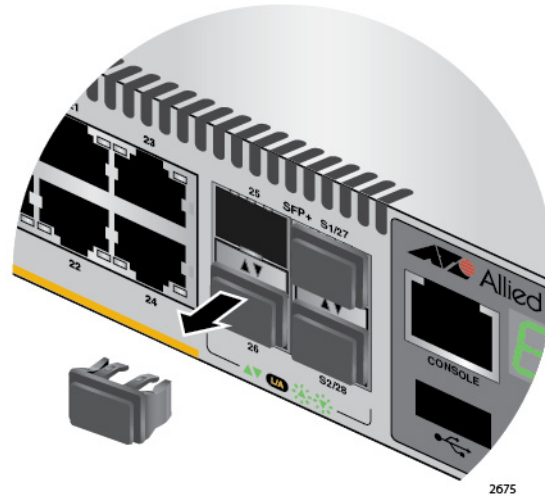

Figure 27. Removing the Dust Plug from an SFP+ Slot
1. Remove the dust plug from a transceiver slot on the switch. Refer to Figure 27.